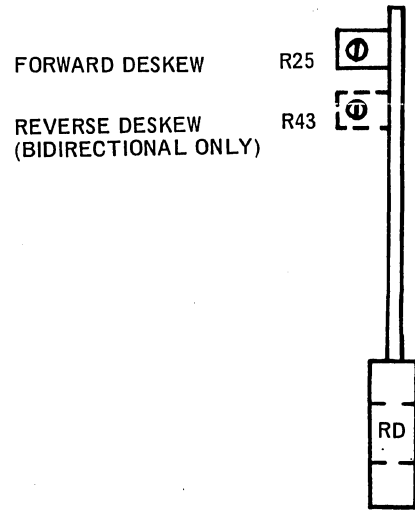

Figure 5-4
- Step 15: Adjust R25 (top potentiometer) on the selected reference track read deskew PCB so that the read deskew delay pulse is at the 20-percent point of the delay range, as indicated on the oscilloscope. (See Figure 5-4 for potentiometer location.) For example; if the minimum delay time obtained by adjusting R25 fully counterclockwise is 10 μ sec and the maximum delay time obtained by adjusting R25 fully clockwise is 25 μ sec, 20-percent of the 15- μ sec delay range is 3 μ sec, thus the delay time is set to 13 μ sec (10 μ sec minimum plus 3 μ sec for 20-percent of the delay range).
- Step 30: Adjust R43 (bottom potentiometer) on the selected reference track read deskew PCB so that the read deskew delay pulse is at the 20-percent point of the delay range, as indicated on the oscilloscope. (See Figure 5-4 for potentiometer location.) For example, if the minimum delay time obtained by adjusting R43 fully counterclockwise is 10 μ sec and the maximum delay time obtained by adjusting R43 fully clockwise is 25 μ sec, 20-percent of the 15- μ sec delay range is 3 μ sec, thus the delay time is set to 13 μ sec (10 μ sec minimum plus 3 μ sec for 20-percent of the delay range).